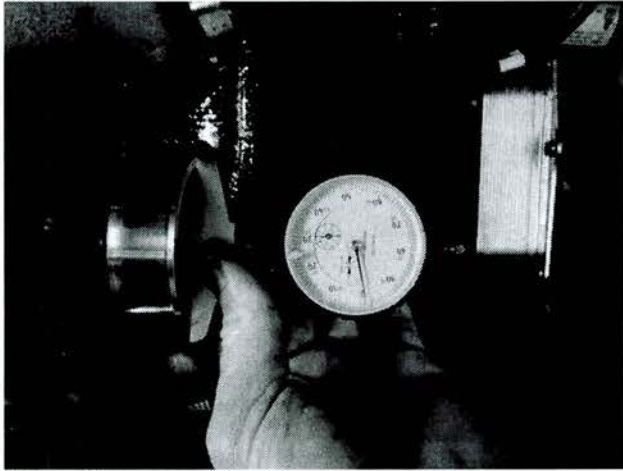

Figure 3
7. Position depth gage with measuring bridge at compressor housing in the middle so that it is level (Figure 3).